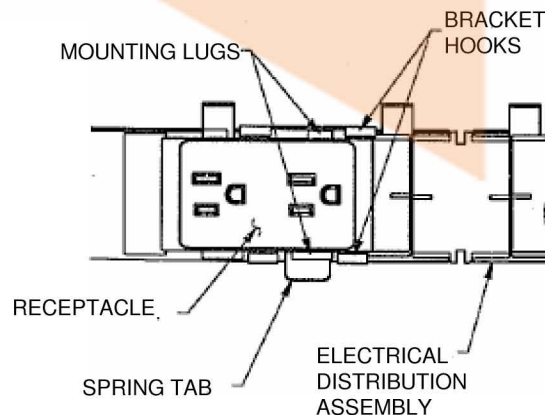

FIGURE 18
2. PRESS THE SPRING TAB AND SLIDE THE RECEPTACLE CONNECTOR INTO POSITION TO ENGAGE THE ELECTRICAL DISTRIBUTION ASSEMBLY. SEE FIGURE 18. PRESS THE RECEPTACLE FURTHER SO THAT THE CONNECTOR IS FULLY INSERTED AND THE MOUNTING LUGS ARE SEATED IN THE BRACKET HOOKS. WHEN PROPERLY INSTALLED, THE SPRING TAB WILL SNAP BACK BETWEEN THE BOTTOM MOUNTING LUGS. SEE FIGURE 18 AND 19.
1. DEPRESS SPRING TAB LOCATED BELOW THE RECEPTACLE BETWEEN THE MOUNTING LUGS. SEE FIG. 18.